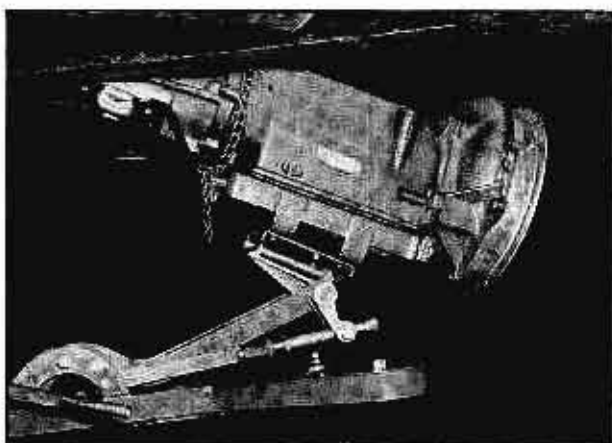

Fig. 14-12 Removing Transmission
17. Remove transmission and flywheel housing as a unit by moving back toward rear of car, and at the same time lowering assembly to the floor. Fig. 14-12.